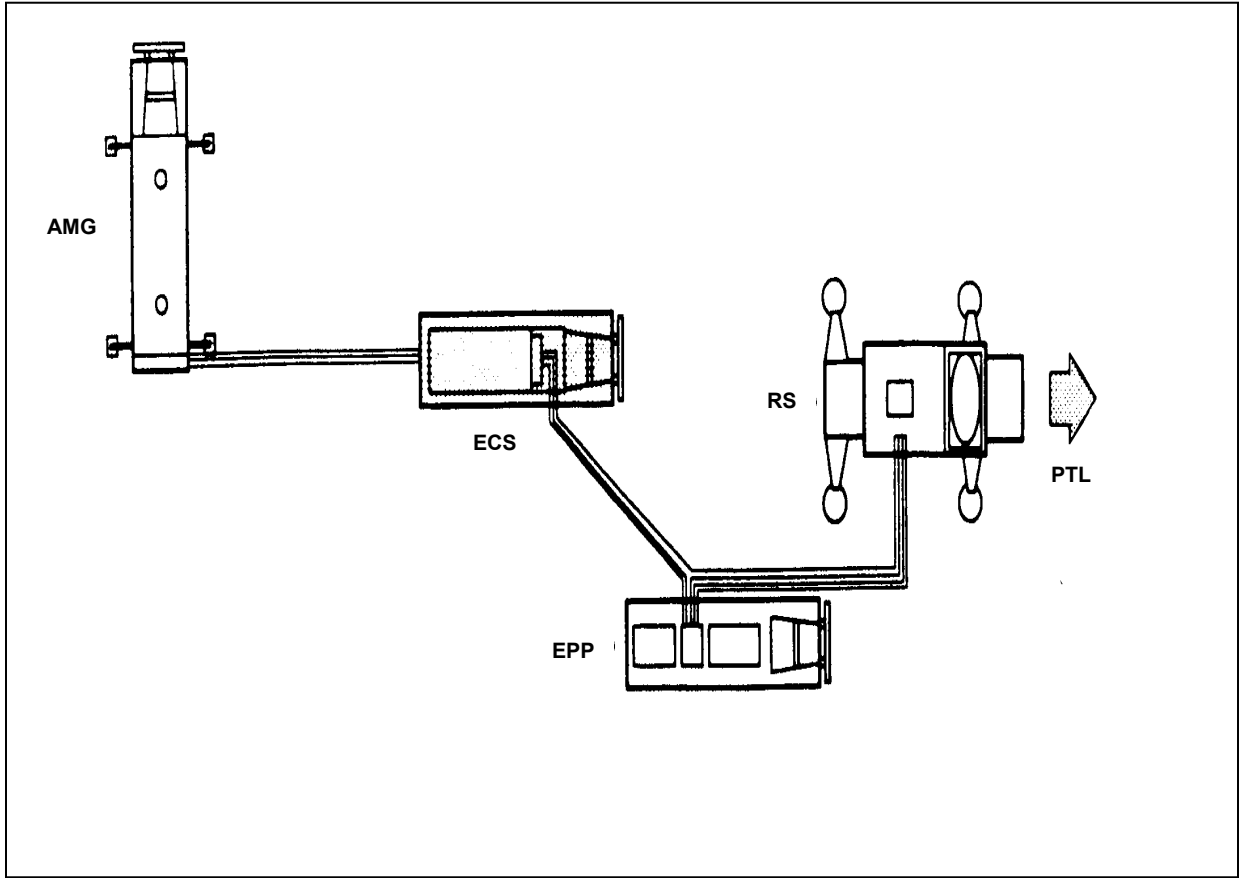

Figure 2-1. ECS emplacement
**ILLUSTRATIONS:** Figures 2-1 and 2-2.
- (1) Before the fire platoon arrives at the selected site, the RSOP team will decide the position of each FP vehicle and will emplace marker stakes and ground rods to show vehicle positions.
(2) All FP vehicles arrive on site at approximately the same time and stop a short distance from the selected FP site.
(3) One crew member from each vehicle serves as a ground guide to direct the driver to position the vehicle at the emplacement site. Crew members will position the RS first, the EPP second, the ECS third, and the AMG last.
(1) Show the crew members how the ECS should be emplaced using a diagram, Figures 2-1 and 2-2, a sand table, or a simple sketch in the dirt.
(2) Tell the crew members what their duties are in the drill.
(3) Read the performance measures of the drill to the crew members.
(4) Have crew members explain their performance measures to ensure that they understand them.